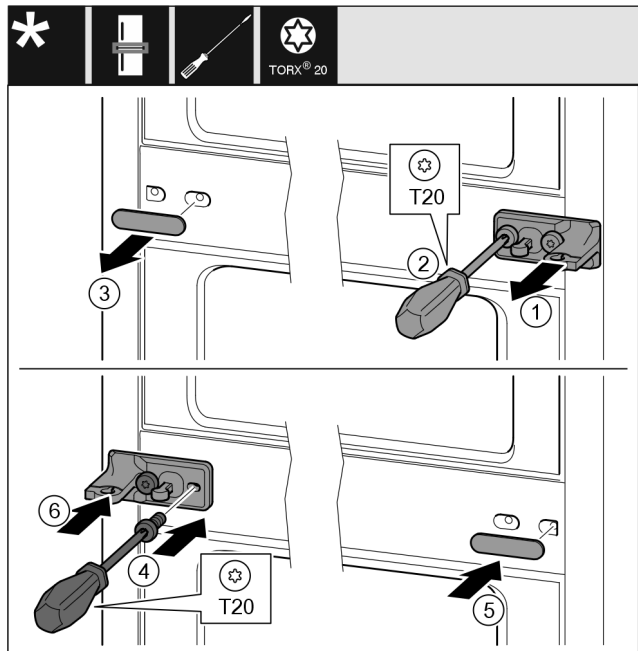

Fig. 11
- Remove the washer. Fig. 11 (1)
- Remove the screws with the T20 screwdriver. Fig. 11 (2)
- Remove the cover carefully. Fig. 11 (3)
- Screw the bearing bracket and the film rotated 180° firmly onto the other side. Fig. 11 (4)
- Attach the cover rotated 180° onto the other side. Fig. 11 (5)
- Push the washer in from the front. Fig. 11 (6)